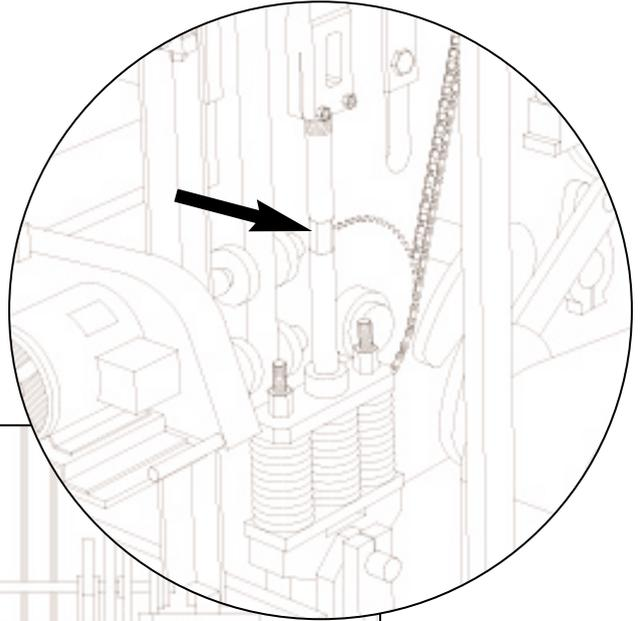

Figure 18.14 ADJUSTING PALLET
- 18.1.8 Run the machine to first stop and adjust the pallet receiver links to obtain a dimension of **1278mm [50.312"]** from the top of the base plate to the top of the pallet receiver rubbers. (see figure 18.14 and 18.15).